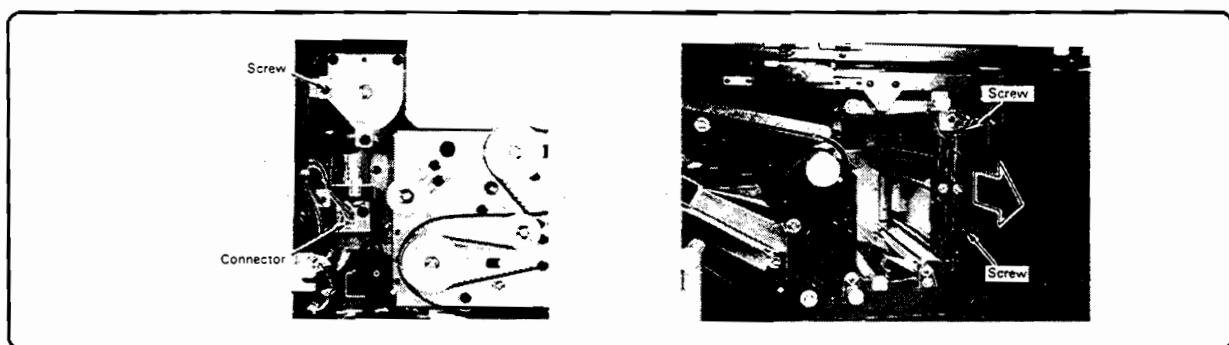

Figure 6-153. Vertical Pass Feed Assembly
2. Unplug the connector and remove the rear holding screw (Figure 6-153).
4. Remove the two screws and pull the Vertical Pass Feed assembly out to the front (Figure 6-153).